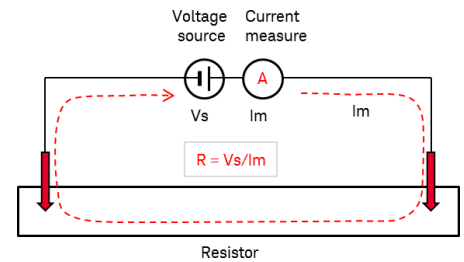

Figure 3. Basic resistance measurement block diagram.
Figure 3 illustrates a typical example of how a resistance is measured. A voltage is applied to a resistor device, the current is measured and the resistance (R) is calculated using the following equation: